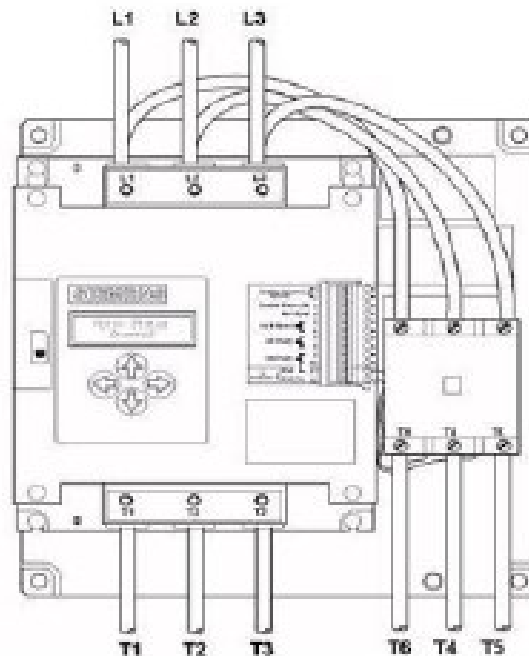

Figure 4: 6-Lead Delta Wiring Configuration
- Figure 4: 6-Lead Delta Wiring Configuration3